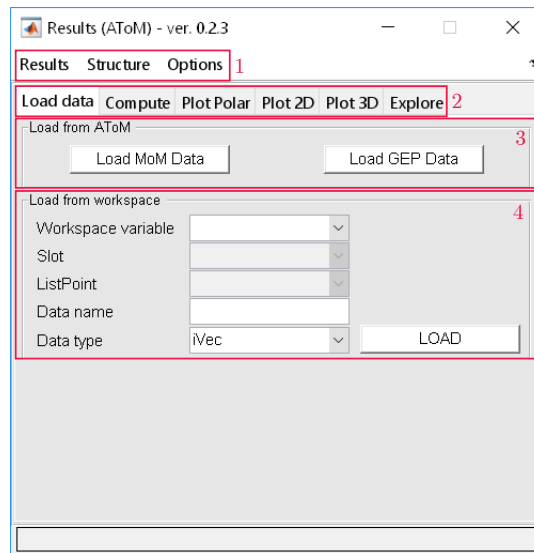

Figure 7.2: Graphical user interface of Resultg - Load tab
Fig. 7.2 shows the basic layout of Results' GUI. Menu Results contains entries `Save`, `Load` and `Quit`, which allows to save and load data or quit Results respectively. Structure menu allows to manage internal repository and for this reason contains entries `Create Slot`, `Create ListPoint`, `Remove Slot` and `Remove ListPoint`. Last menu Options contains items `Load options` and `Load template` which allows to load user pre-sets of graphical behaviour or important user values.
Box 2 of Fig. 7.2 contains six special tabs which are used for following actions:
Load tab, see Fig. 7.2, gives two possibilities how to load data into Results, directly (automatically) from AToM (see Box 3) or manually from Matlab workspace (see Box 4). Commands for data
- load data via panel “Load from workspace”(see Fig. 7.2 Box 4) or directly from MATLAB command line.